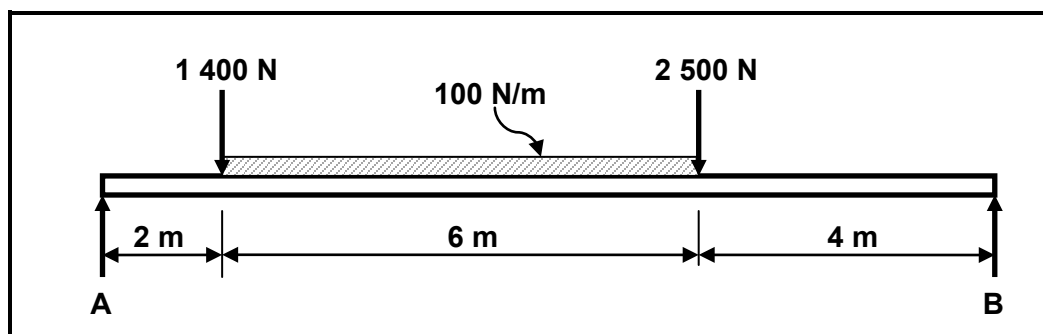

FIGURE 7.3
7.4 FIGURE 7.3 below shows a uniform beam that is supported by two vertical supports, A and B. Two vertical point loads are exerted onto the beam, as well as a uniformly distributed load of 100 N/m, over a length of 6 metres of the beam.